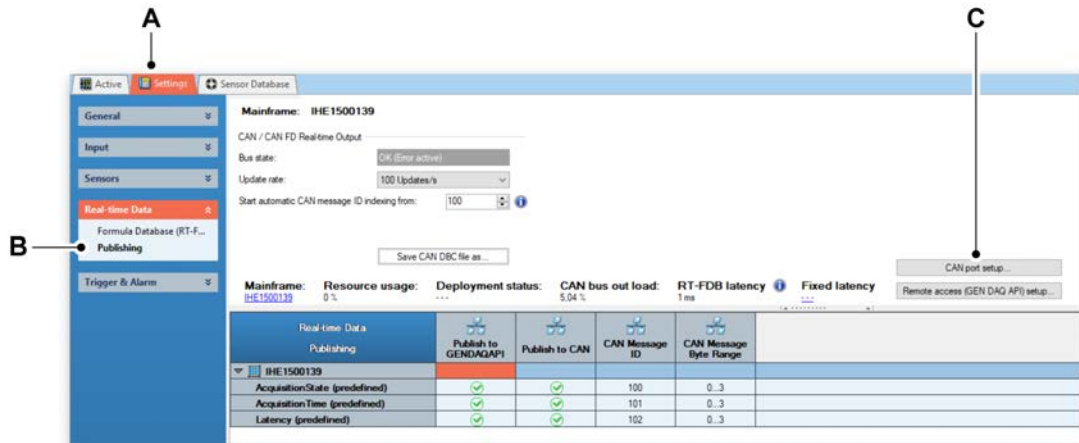

Figure 11.62: CAN bus settings
- 3 The correct **CAN bus settings** have to be used. To edit the CAN bus settings and set up the required settings open the **Real-time Data** panel and edit the **Publishing** values as shown in Figure 11.62